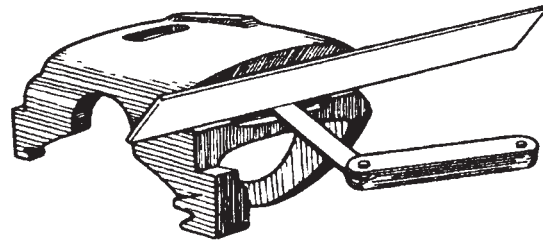

Figure 1
3. Lay a straight edge across the caliper v-way surfaces (see Figure 1) and measure with (a feeler) gauge. If the maximum depth is .050" or more the caliper should be replaced.